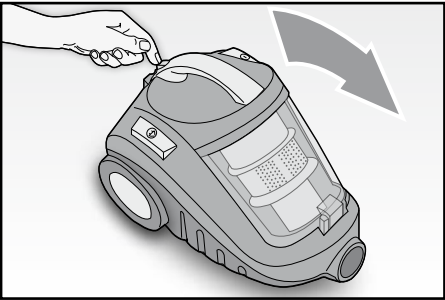

Fig. 6
- Press the release button (D) and at the same time take out the dust container (A) using the handle (F) (Fig. 6).